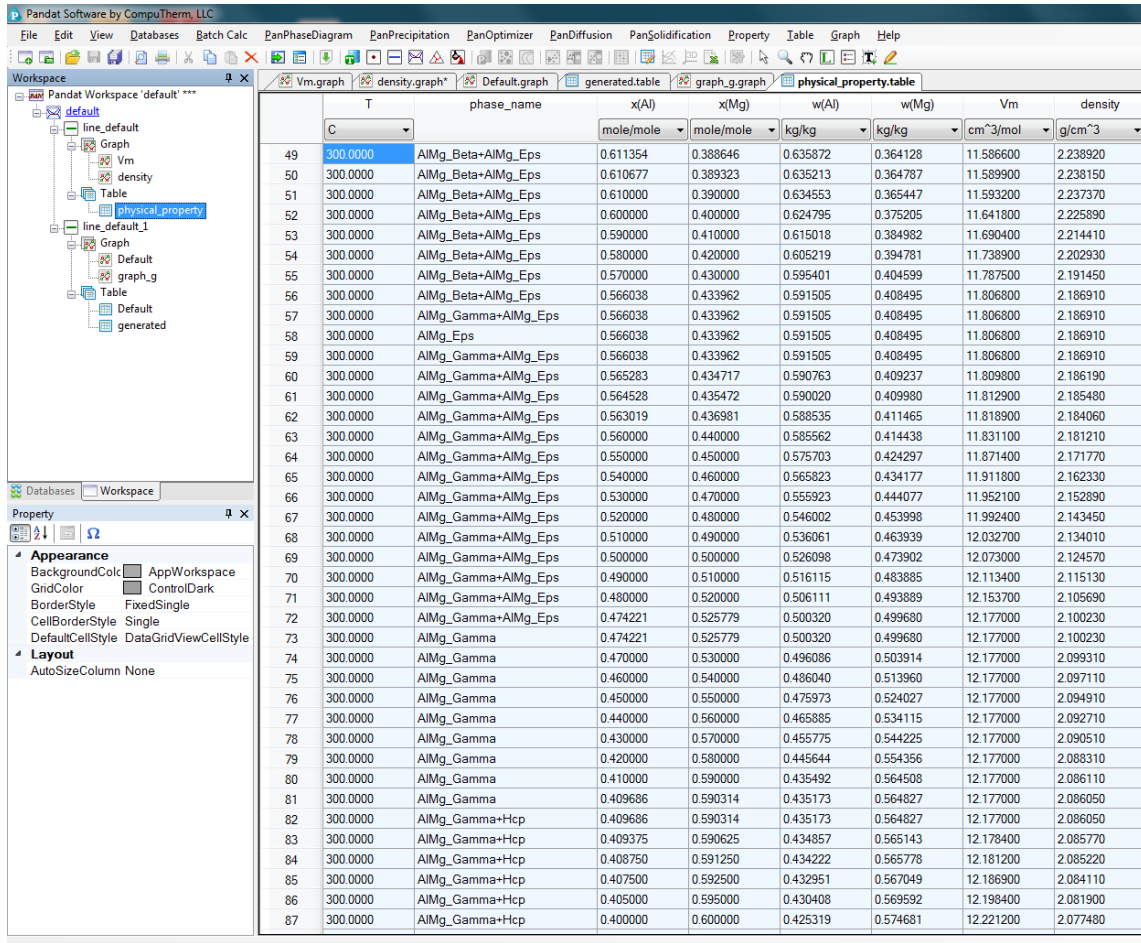

Figure 1.12.5: the physical_property table showing the stable phases varying with the composition and the calculated molar volume and density
- Details information can be found in the physical_property Table as shown in Figure 1.12.5;